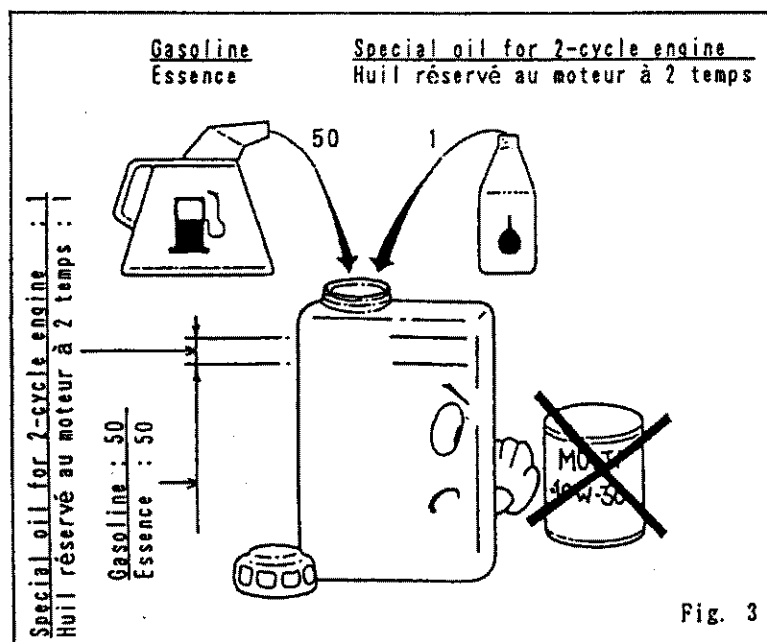

Fig. 3
2. Fuel and oil mixing (Fig. 3)
2. Mélange huile essence (Fig. 3)